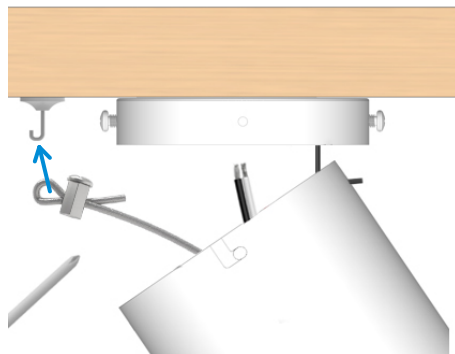

Fig. 6.2
**Option 1:** Refer to Fig. 6.2. Hang the safety rope on the ceiling hook (not included). Using a screwdriver, loosen the screw on the safety rope lock. Pull the safety rope taut and then tighten the screw on the safety rope lock to ensure a firm and secure connection between the safety rope and the ceiling hook. Always double-check to ensure the safety rope is taut.